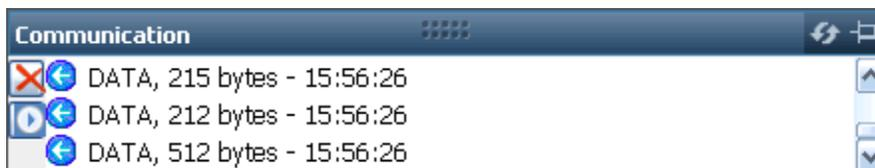

Figure 32: Communication Window – Connection at Incorrect Baud Rate
*COM Port Connection*: Scrolling lines designated as “DATA” indicate a connection is established, but the receiver’s baud rate is not correct (see Figure 32). Open the *Port Configuration* dialog box. Click  to connect.